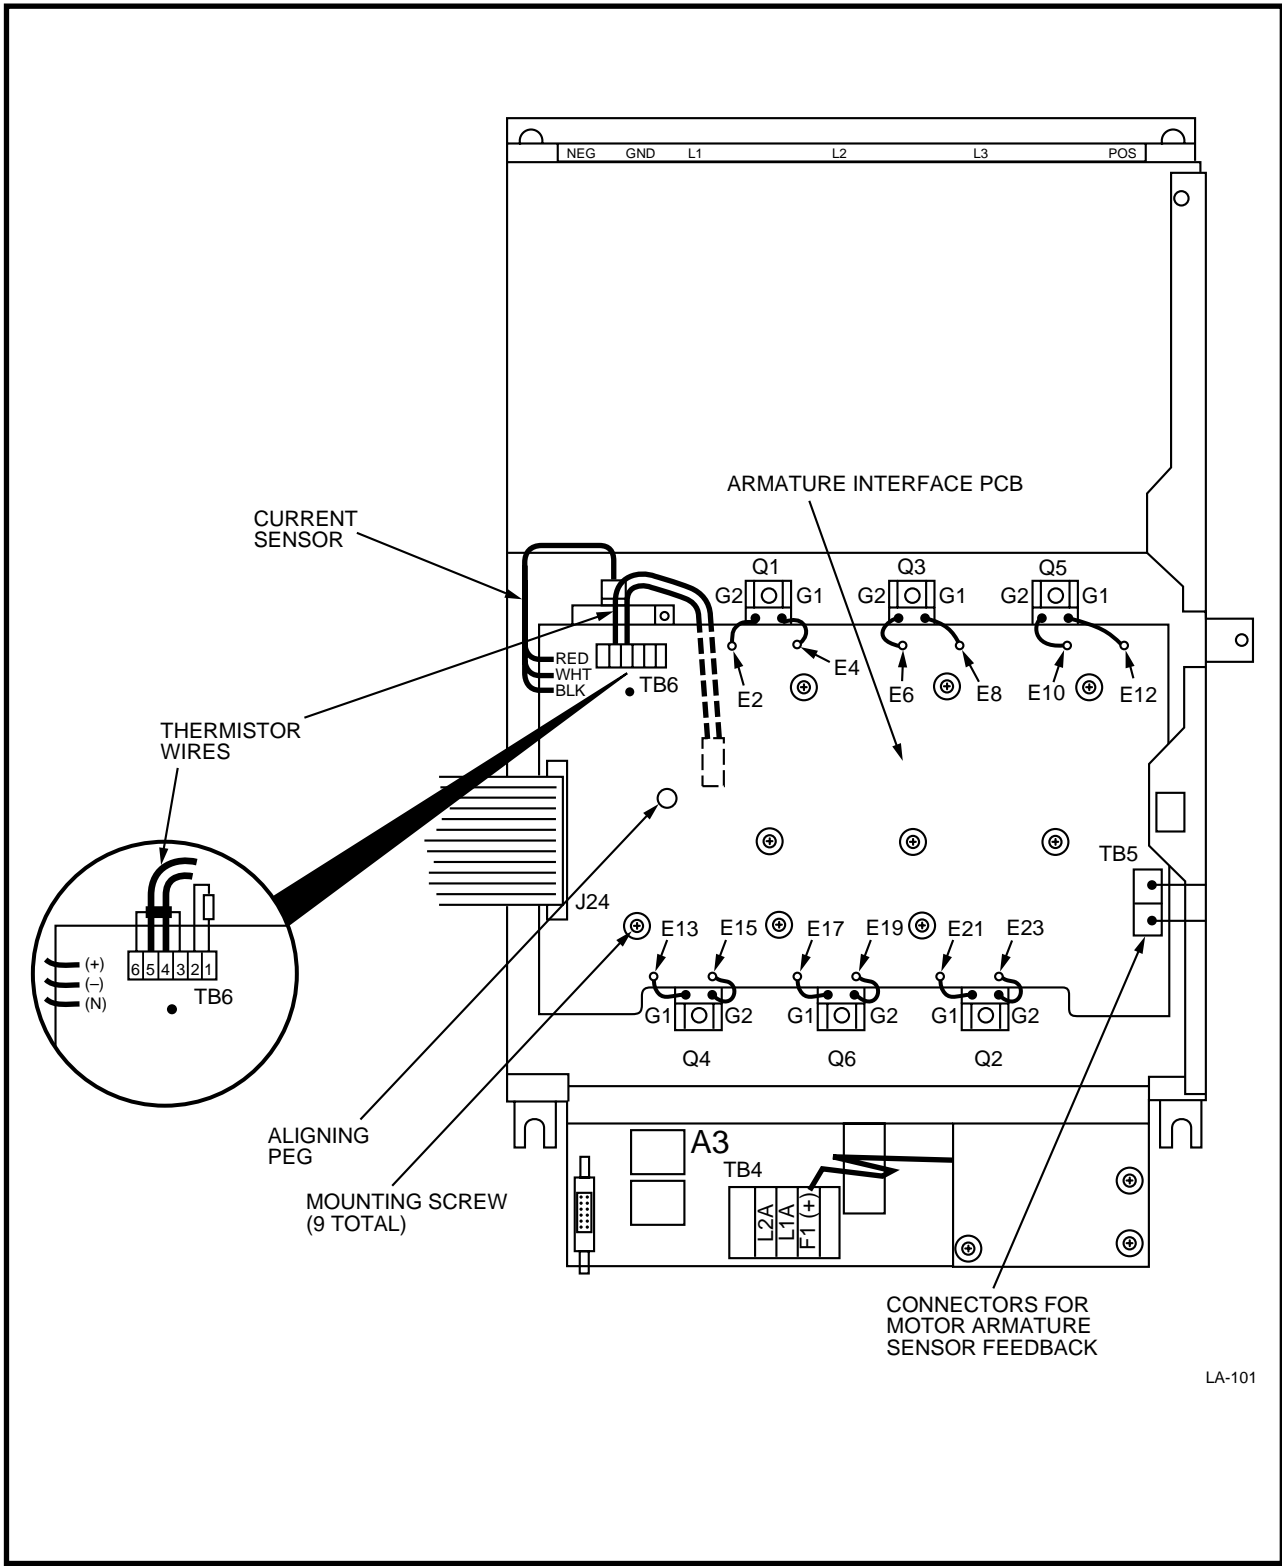

Figure 14. DSD Armature Interface PCB Replacement
- Remove the J24 connector (see Figure 14).
- Remove (unscrew) the wire connectors to the motor armature sensor feedback wires at TB5 (see Figure 14).
- Disconnect (unscrew) the thermistor wires at terminals 4 and 5 at TB6 (see Figure 14).
- Disconnect the current sensor (see Figure 14).
- Install new board. Line up new board with peg (see Figure 14), and push new board in making sure not to pinch any wires under the board.